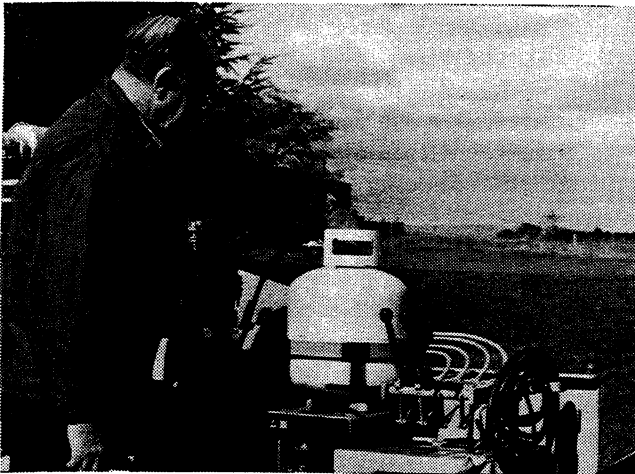

Figure 4-1 – Opening Propane Valve
1. Turn main valve on propane tank counter-clockwise (CCW) to "on" position as shown in Figure 4-1.